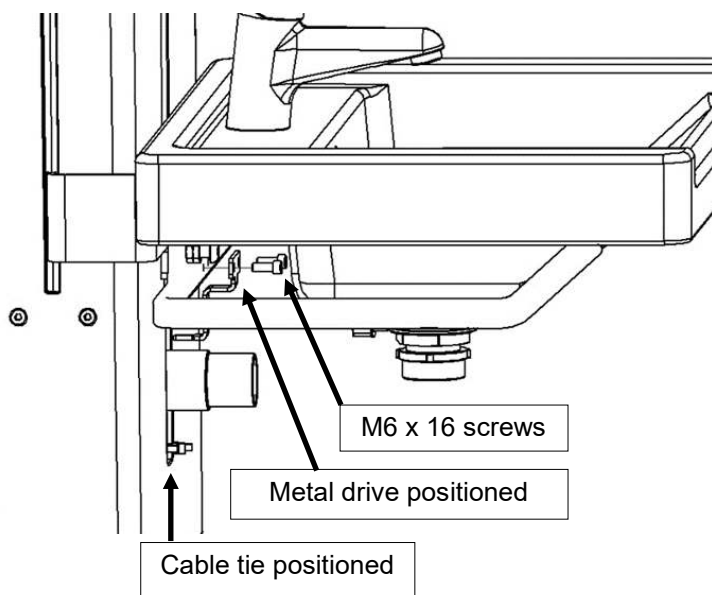

Figure 20 Fit metal drive part
6. Add the sliding cover metal drive part to the basin frame using the two M6 x 16 screws provided. Engage the thread but do not do up (Figure 20)